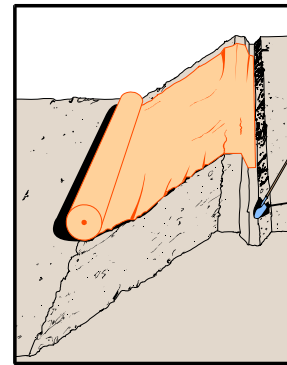

Figure 2 Geotextile Placement
- Install the specified geotextile over the channel invert and side slopes. See Figure 2.